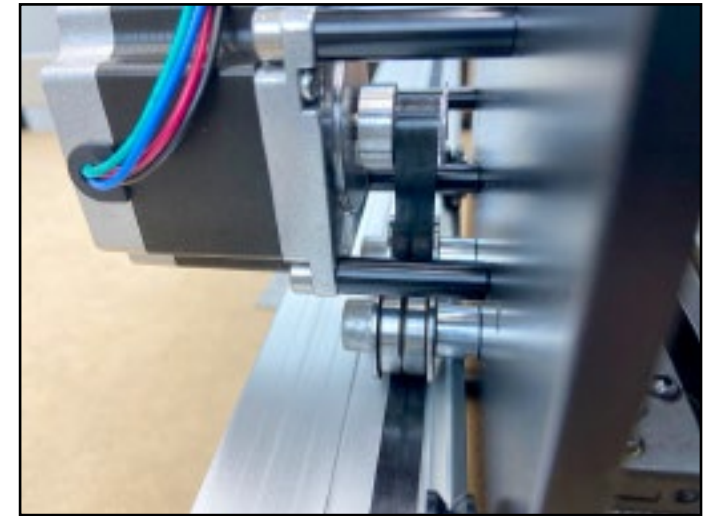

Figure 5-9
7. Make sure the belt has not twisted and the teeth are still facing down, then place the belt loop over the X-motor pulley. See **Figure 5-9**.